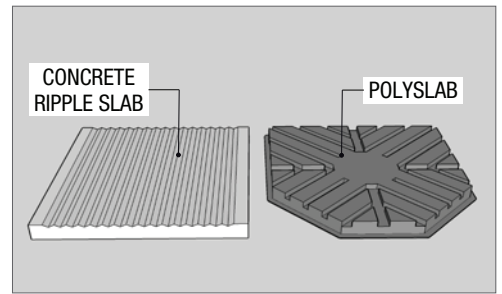

Fig 1
- Externally on a level concrete / suitable plinth, such as a concrete ripple slab or a Polyslab (Fig 1)